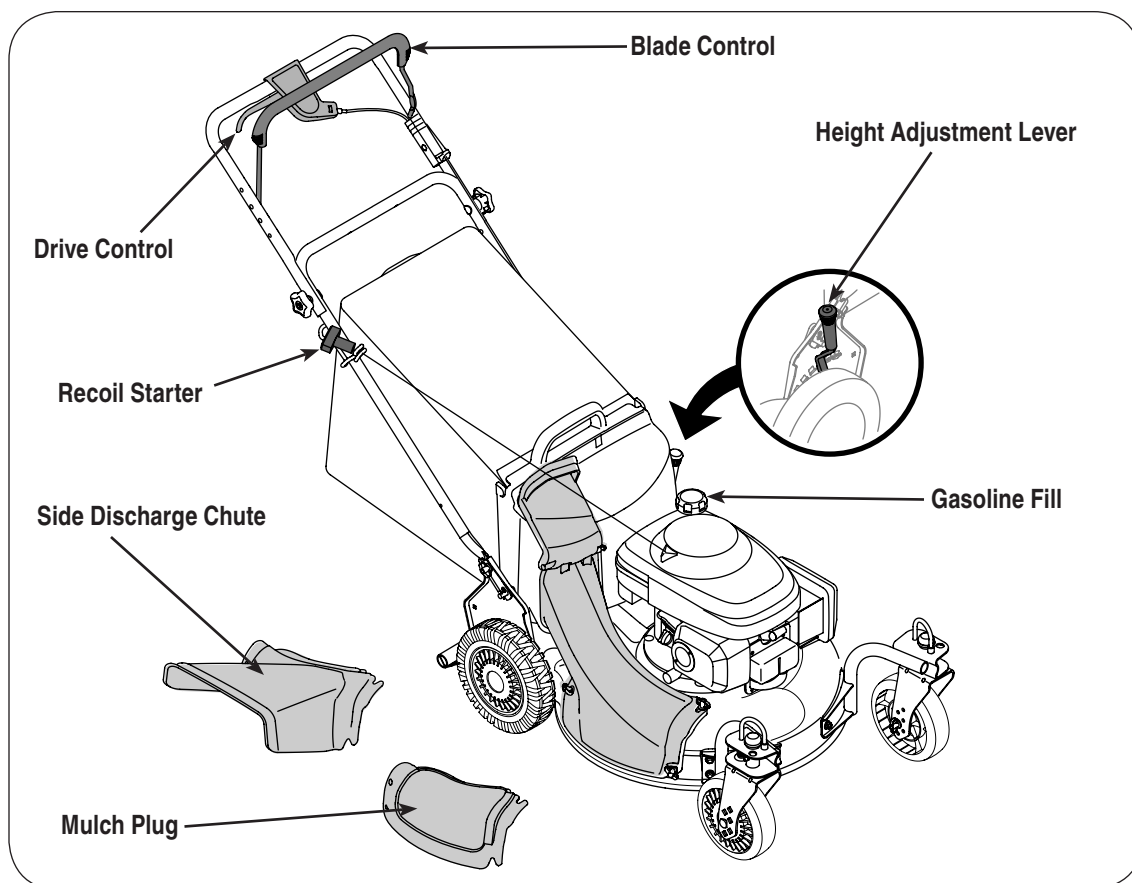

Figure 4-1: The major components on the mower.
The drive control is located on the upper handle. Squeeze the drive control to engage the drive system. Release it to disengage the drive system. Release the drive control to slow down when approaching an obstacle, making a turn, or stopping. See Figure 4-1.
2. Service the engine with gasoline as instructed in the engine manual. See Figure 4-1 above for location of gas fill.